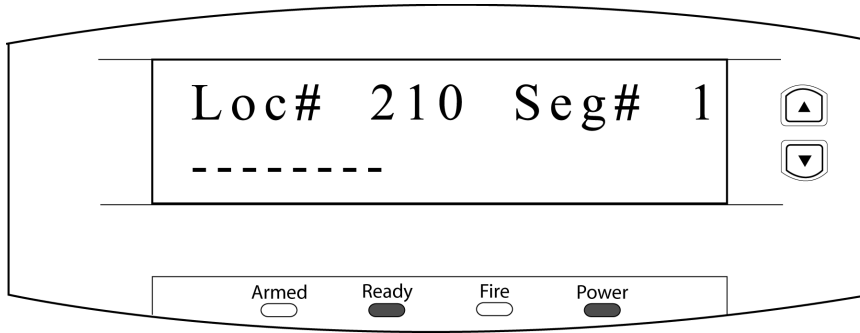

Figure 9: Alarm Panel - Location 210, Segment 1
1. Enter the location for Enabling the NX-8E Transition-Based Broadcasts, which is **2** **1** **0**, followed by the **#** key. This location has two segments that must be configured. For Location 210, Segment 1, all numbered options must be toggled to the OFF position. Once completed, the LCD will look similar to Figure 9.